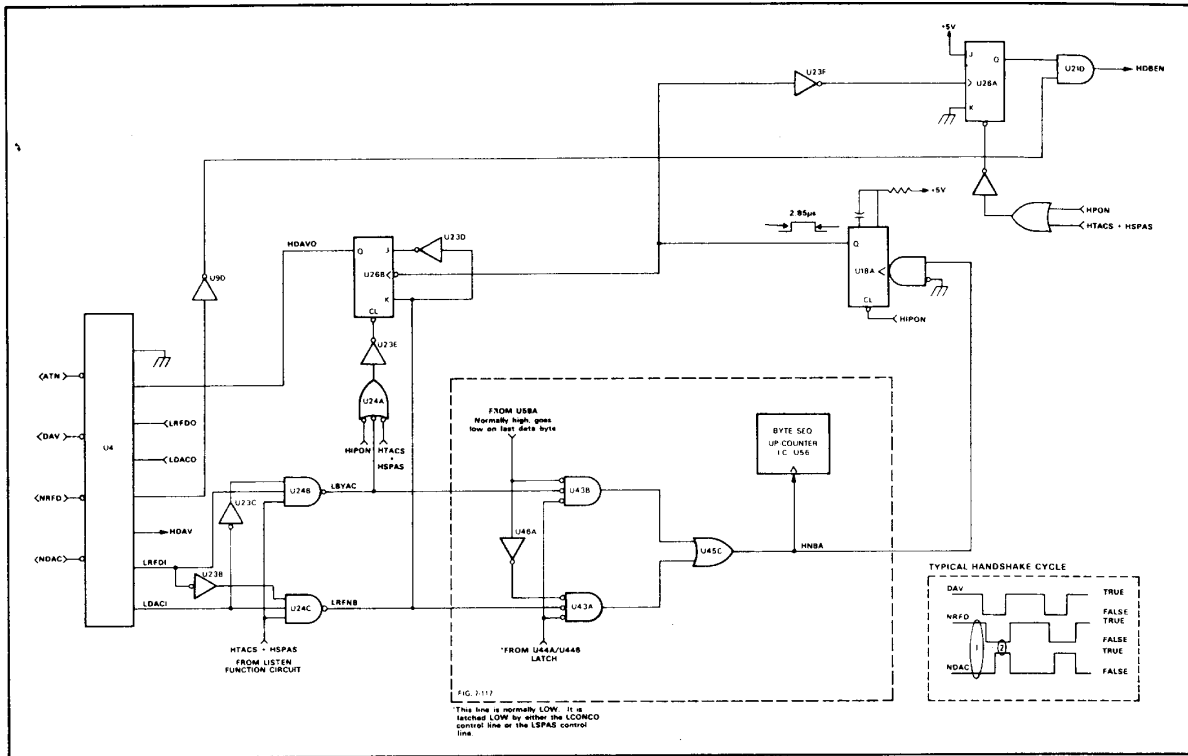

Figure 7-105. Source (Talk) Handshake Circuit, Simplified Schematic
The schematic for the circuit is shown in Figure 7-102, the parts locator diagram is shown in Figure 7-103, and a simplified schematic is shown in Figure 7-105.
The handshake bus condition that initiates a source handshake is shown by ① in Figure 7-105. When this condition occurs, and if the 560A has been addressed to talk, the LRFNB control line is driven LOW. The LRFNB line goes to flip-flop U26B, where it sets the J-input HIGH and the K-input LOW, and to 3-input NAND gate U43A. In normal operation the other two inputs of U43A are LOW; therefore, the application of the LRFNB signal causes the U43A output to go HIGH. The U43A output goes to U45C, where it drives the HNBA line HIGH. The HNBA signal clocks U56 and causes the first data byte (+/- sign) to be applied to bus transceivers U1 and U2 (not shown); it also triggers U18A, a 2.85 $\mu$ s one-shot multi-vibrator.
The second part of the source handshake occurs when the listener (controller) communicates it has accepted the data byte. The listener communicates this by driving the NRFD line LOW and the NDAC line HIGH; the condition shown by ② in Figure 7-105. This condition causes the LBYAC control line to be driven LOW. The LBYAC signal